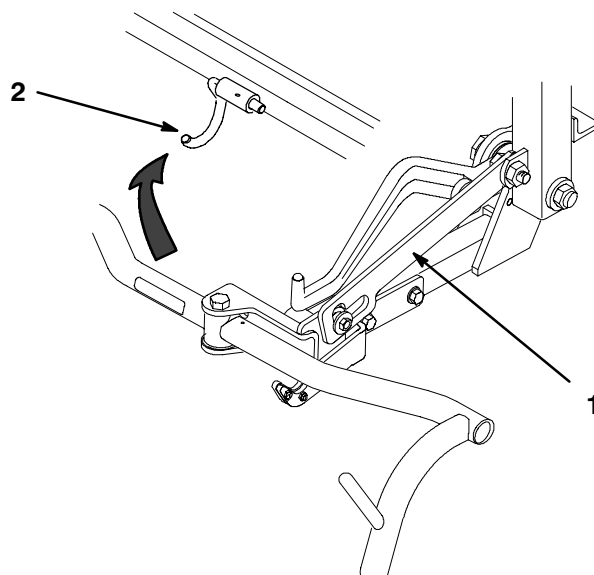

Figure 12
- C. Lift up on the slotted link and rotate the pull frame into the wire hook (Fig. 12).